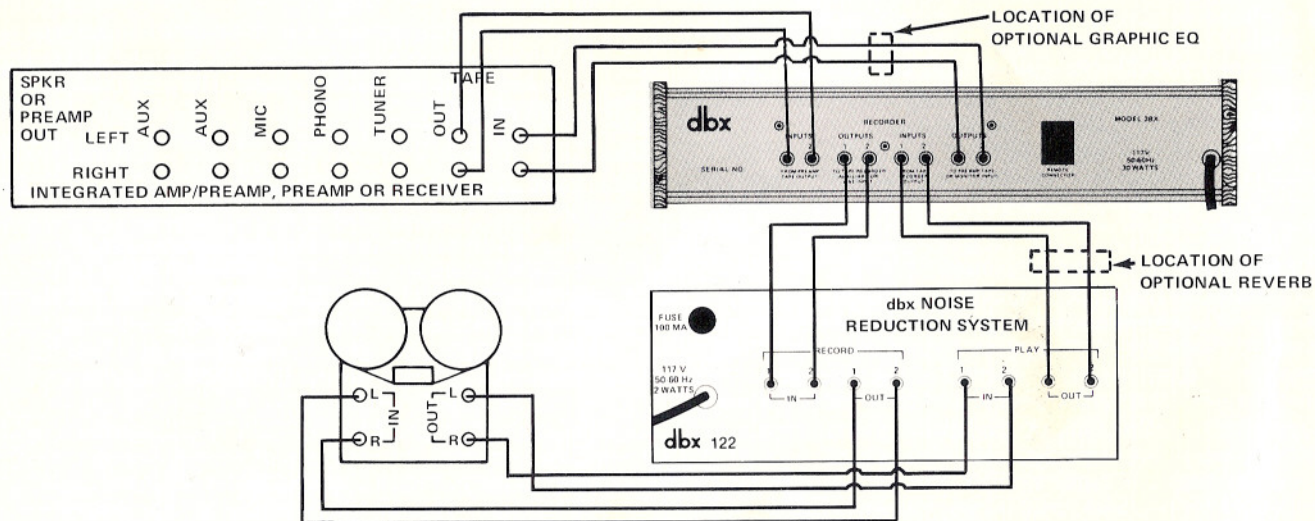

Fig. 12 — Combining the 3BX with a dbx Tape Noise Reduction System
1. Connect your system as shown in Figure 12.